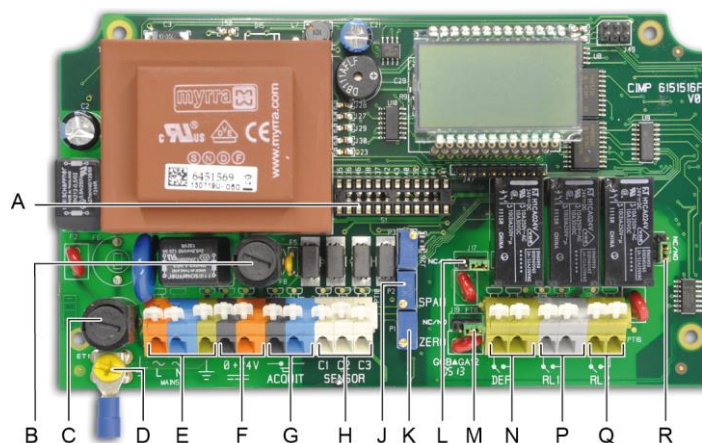

Figure 2: Internal view.
- A motherboard (Figure 2) for all of the system components (power, display, relays and connectors) ;
The ground terminal (yellow) (Figure 2, ref. D) is indicated with the following symbol: .
Protection is provided by fuse F7 (Figure 2, ref. C). The sector power supply must be wired to the two terminals marked L (orange) and N (blue) (Figure 2, ref. E) as indicated by the wiring examples on pages 10 to 12.
The 24 V DC power supply is connected to the terminals marked 0 and +24V (Figure 2, ref. F) as indicated by the wiring examples on page 9. This input is protected by fuse F8 (Figure 2, ref. B).
The different types of sensors should be connected to terminals C1, C2 and C3 (Figure 2, ref. E) as indicated by the wiring examples on page 9.
- Each type of sensor has a different programming circuit (Explo 340 mA or 4-20 mA) installed during manufacturing (Figure 2, ref. A).
- Each line may be connected to a maximum of 5 *OLCT 10* toxic gas sensors. In this case, circuit programming must be (Figure 2, ref. A) completed by trained staff.
The relay contacts can be used "normally open" (NO) or "normally closed" (NC) by flipping the corresponding switch (Figure 2, ref. M or R).
The relay contact can be used "normally open" (NO) or "normally closed" (NC) by flipping the corresponding switch (Figure 2, ref. L).
A remote acknowledgment button can be connected to the *MX 15* controller at the terminals marked *Acknowledgment* (Figure 2, ref. G) (dry, voltage-free contacts) at a maximum distance of 2 meters.